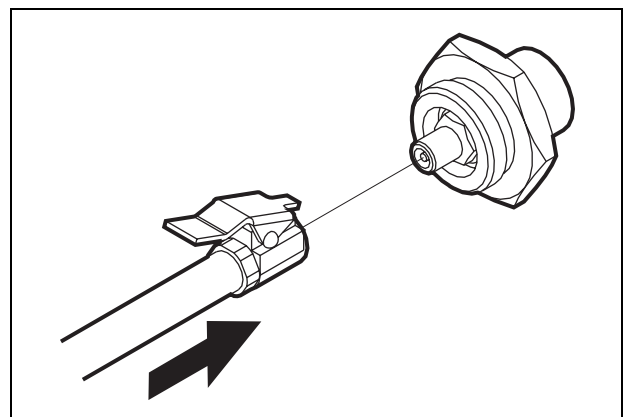

Fig. 33 Connect the air pump to the nipple
3. Connect the air pump supplied with the grapple saw to the air tank and charge to the required pressure range. *See Fig. 33.*